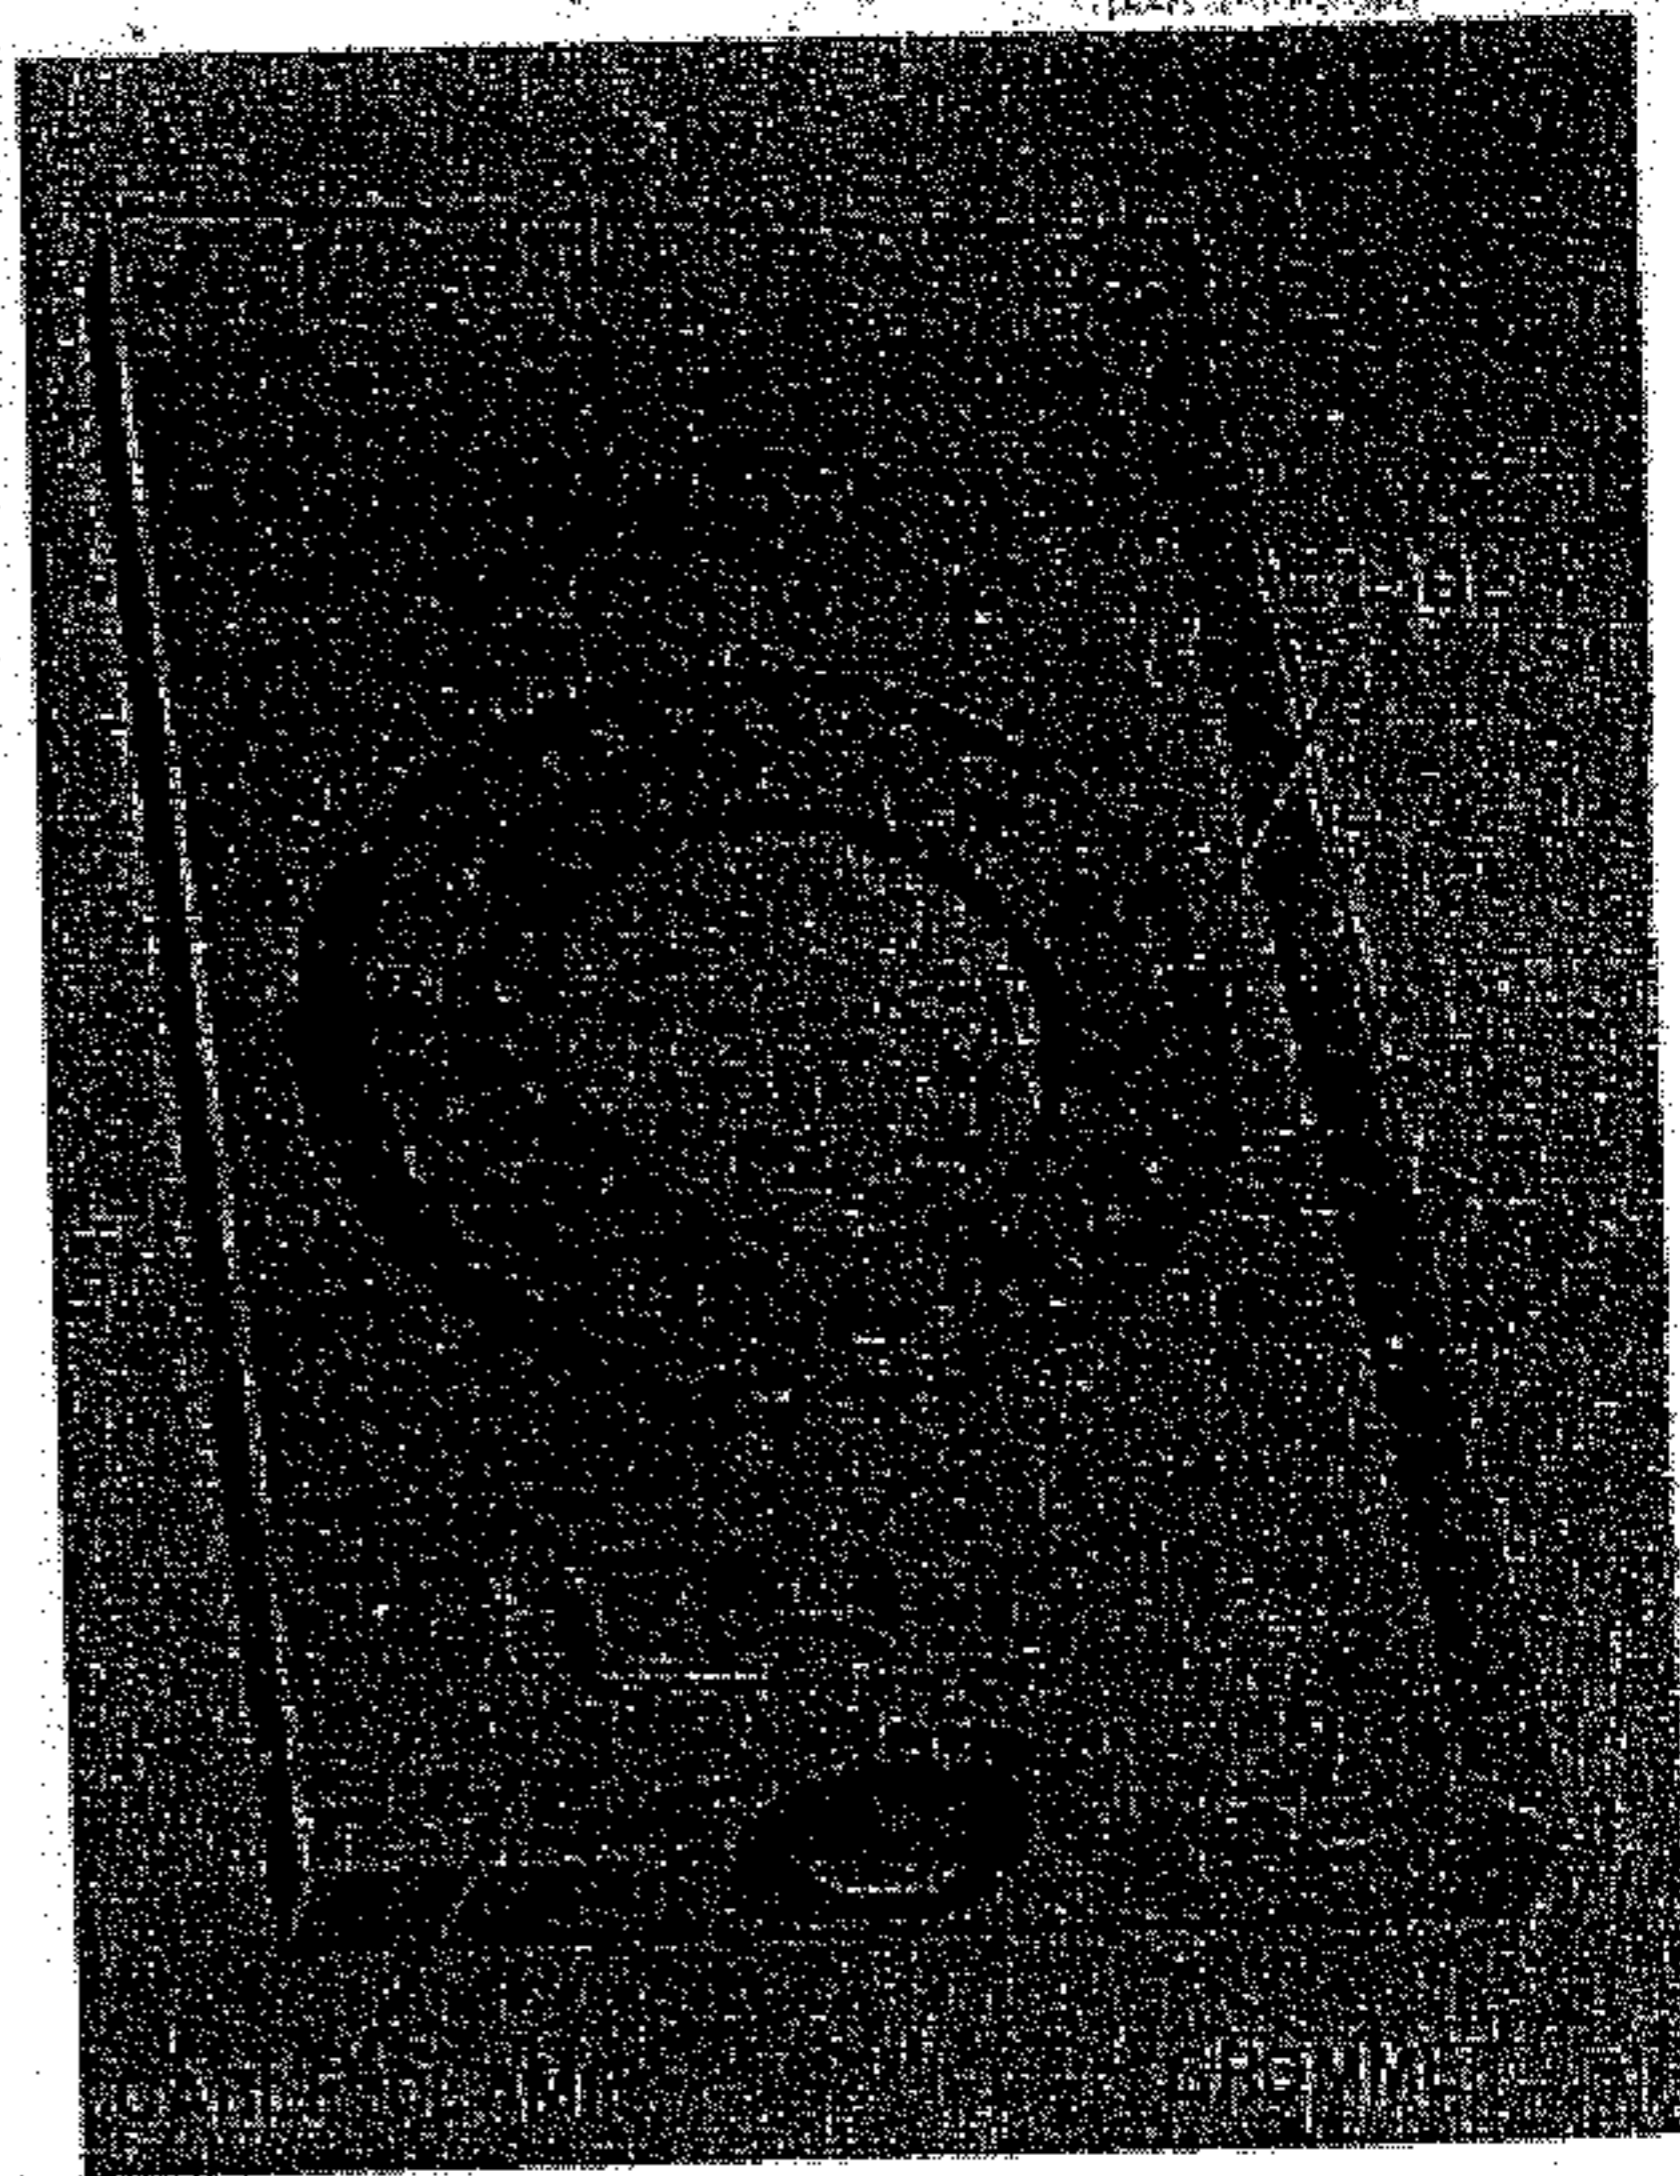

Figure 1-7. Mounting MT-275/ARN-6
**e. MOUNTING MT-275/ARN-6.** (See figure 1-7.)—Mounting MT-275/ARN-6 is a rectangular shaped aluminum box with an open top into which the control box mounts. A female connector provides electrical connections between the control box male connector plug and the interconnecting cables which enter through an opening in the bottom end of the mounting. Four holes are provided for attaching the mounting to the structure of the aircraft.